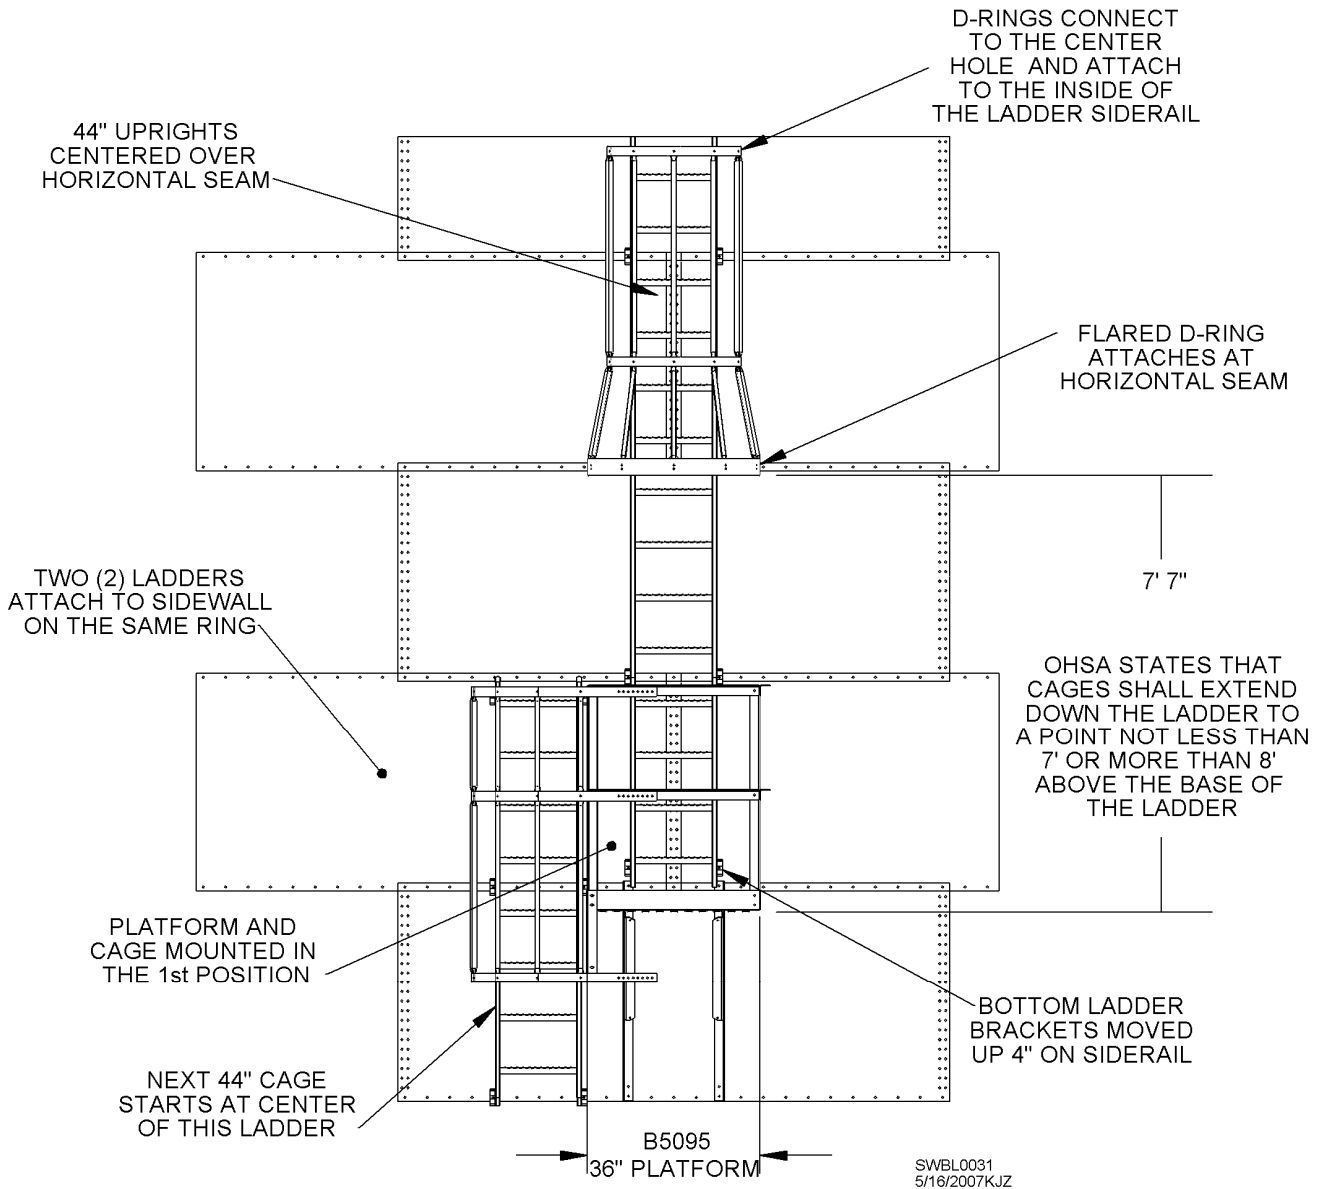

Fig. 18
Fig. 18 shows where flared D-ring should be assembled in relation to landing platform. When assembled correctly, flared D-ring should be two (2) sidewall rings above landing platform. **Landing platform must be attached to sidewall in 1st position.** This will ensure OSHA standards are met, as well as ease erection of ladder and cages. Two ladders attach to sidewall on same ring at landing platform location. Remember that at top and bottom of each ladder assembly, sidewall brackets need to be moved either up or down 4" to avoid interference with roof sheets, landing platform brackets, concrete, and ladder caps.